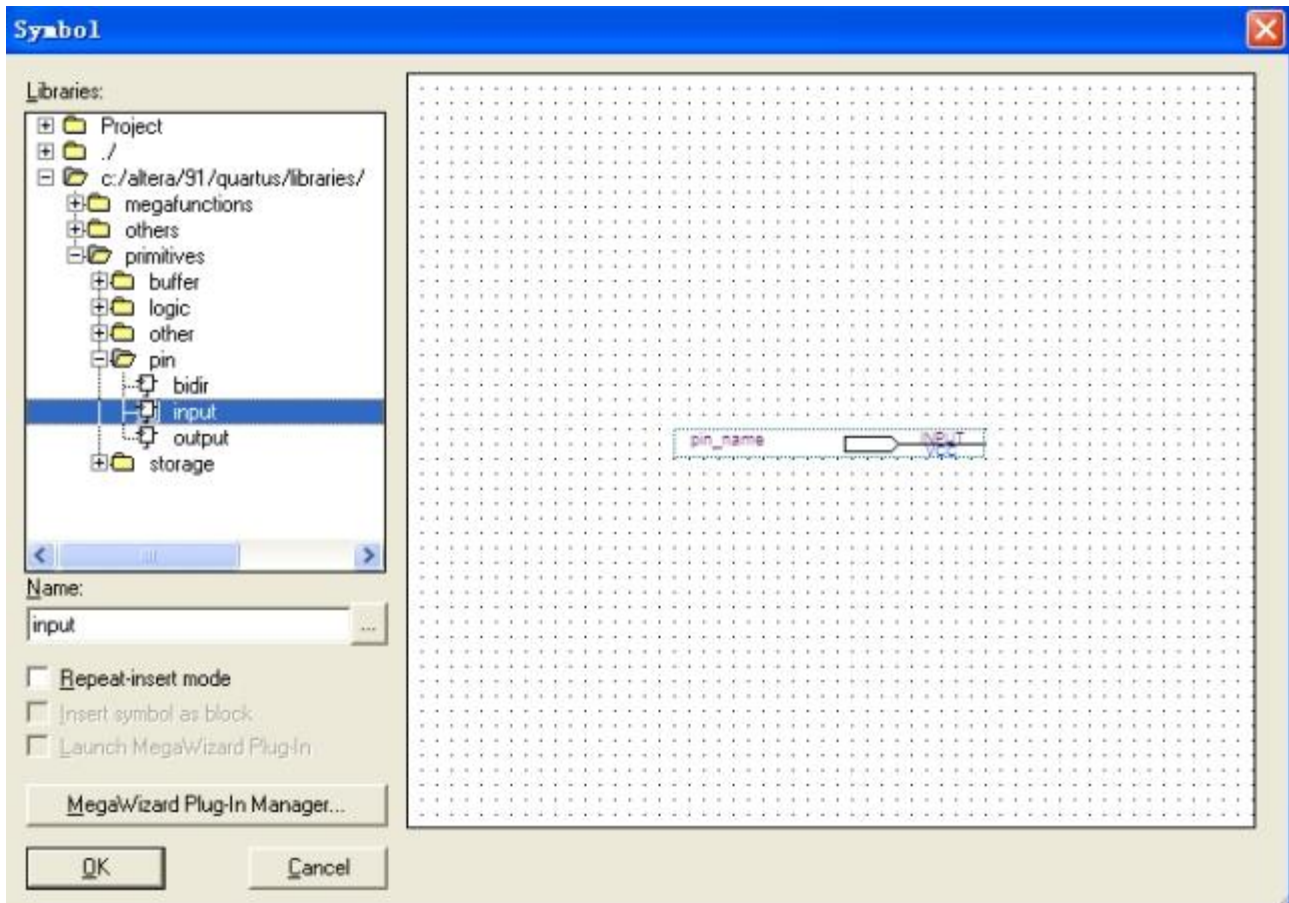

Figure 3-17 Input pin symbol
- Under Libraries, select quartus/libraries > primitives > pin > input. See Figure 3-17